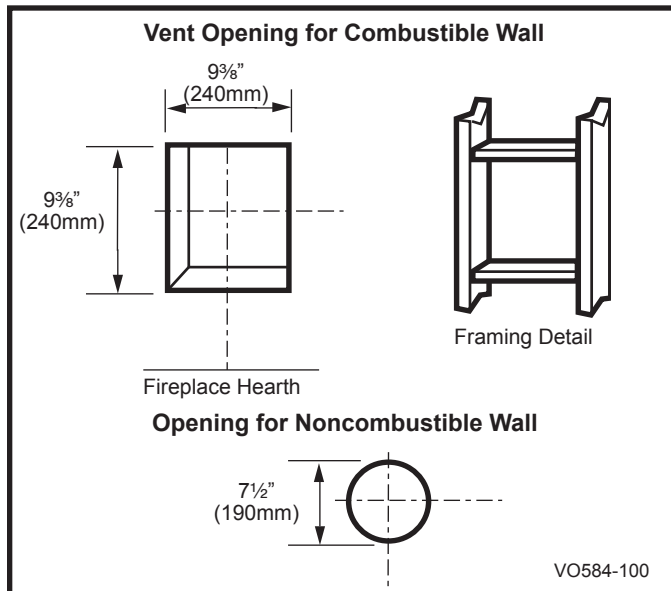

Fig. 27 Locate vent opening on wall.
Locate vent opening on the wall. It may be necessary to first position the fireplace and measure to obtain hole location. Depending on whether the wall is combustible or noncombustible, cut opening to size. (Fig. 27)
Combustible Walls (Fig. 27): Cut a 9 $\frac{3}{8}$ " H x 9 $\frac{3}{8}$ " W (240 x 240 mm) hole through the exterior wall and frame.
Noncombustible Walls (Fig. 27): Hole opening must be 7.5" (190 mm) in diameter.
1. Establish vent hole through the wall. (Fig. 27)